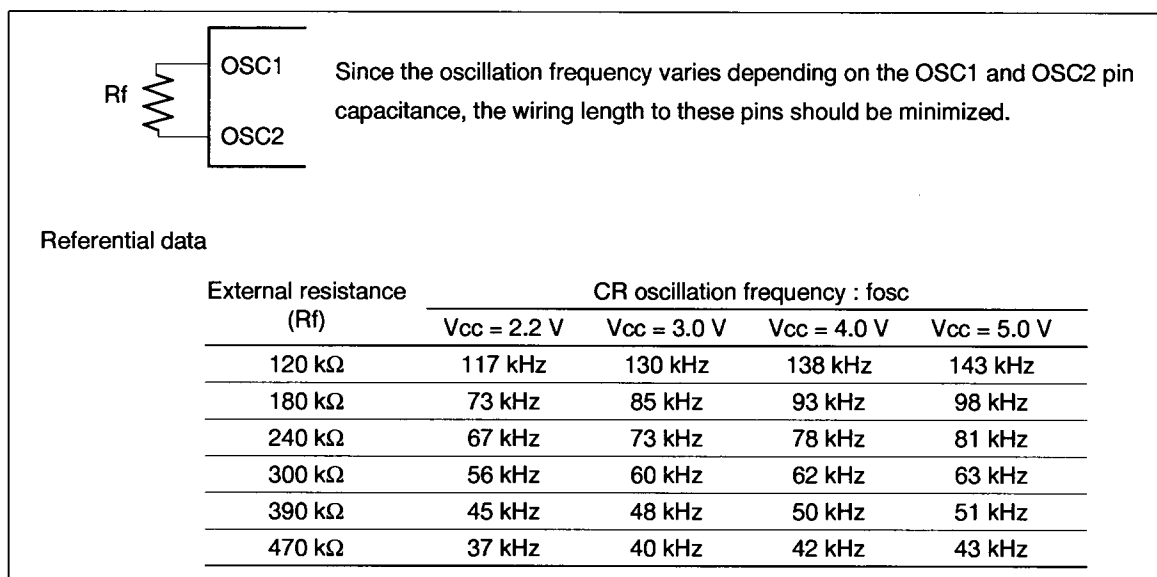

Figure 68 Internal Oscillation
14. Applies to the internal oscillator operations using oscillation resistor R_f (figure 68).